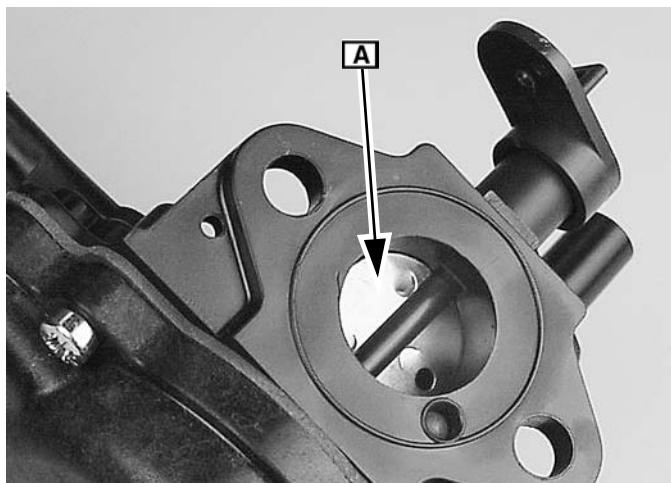

Fig. 54
13. Push the throttle plate **A** into the throttle shaft, following the orientation noted during disassembly. If the throttle plate does not fit snugly, replace the throttle shaft. Rotate throttle shaft to ensure plate **A** (Figure 54) does not stick or bind.